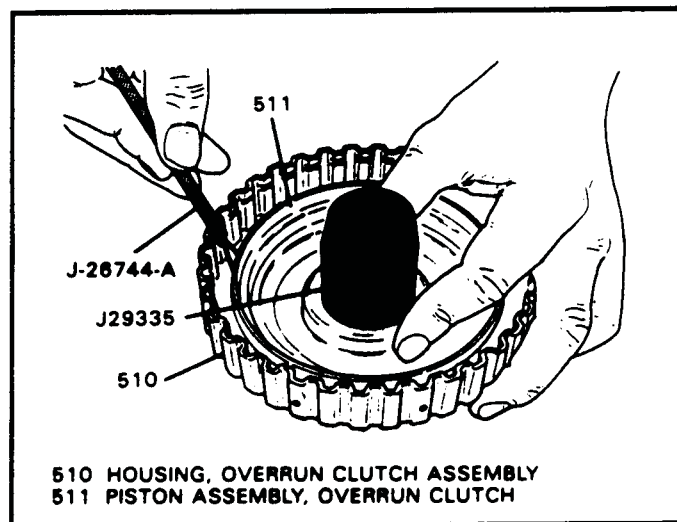

Figure 119
14. Install lip seal protector J-29335 onto overrun clutch housing as shown in Figure 119.
15. Install overrun clutch piston over seal protector and into the overrun clutch housing, as shown in Figure 119.
16. Use wire loop J-26744-A while pushing down on the piston, as shown in Figure 119.